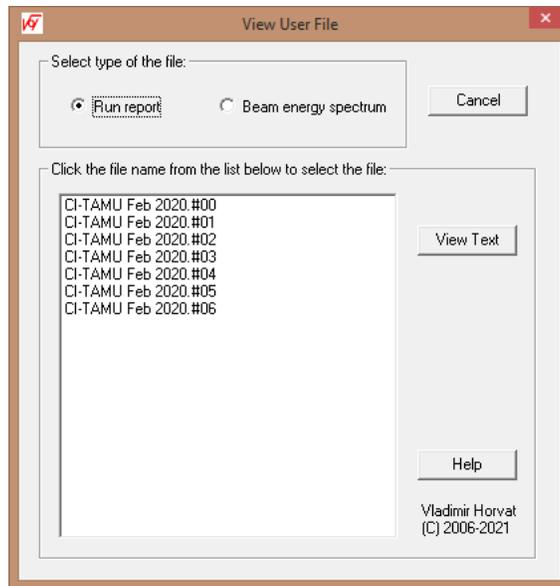

Figure 13. Example of the View User File dialog box.
**User files** item function is to allow access to the contents of all the run files. From the **View User File** dialog box that opens (similar to the one shown in Figure 13), a copy of any individual run report can be viewed by clicking the corresponding file name in the displayed list and then clicking the **View Text** button.